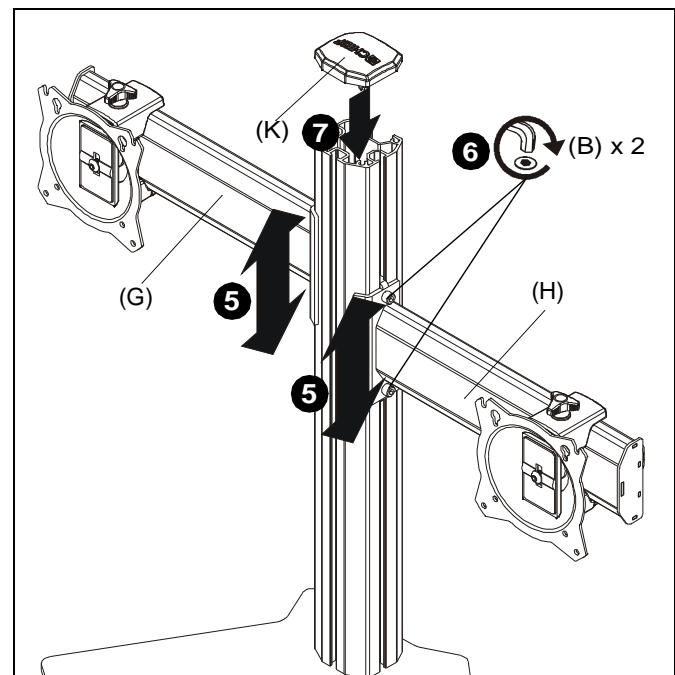

Figure 4
5. Adjust arms (G and H) to desired mounting height. (See Figure 4)
6. Tighten 1/4-20 x 1/2" socket head cap screws (B) to secure array arms (G and H) in desired positions. (See Figure 4)
7. Secure column cap (K) to top of column (F). (See Figure 4)